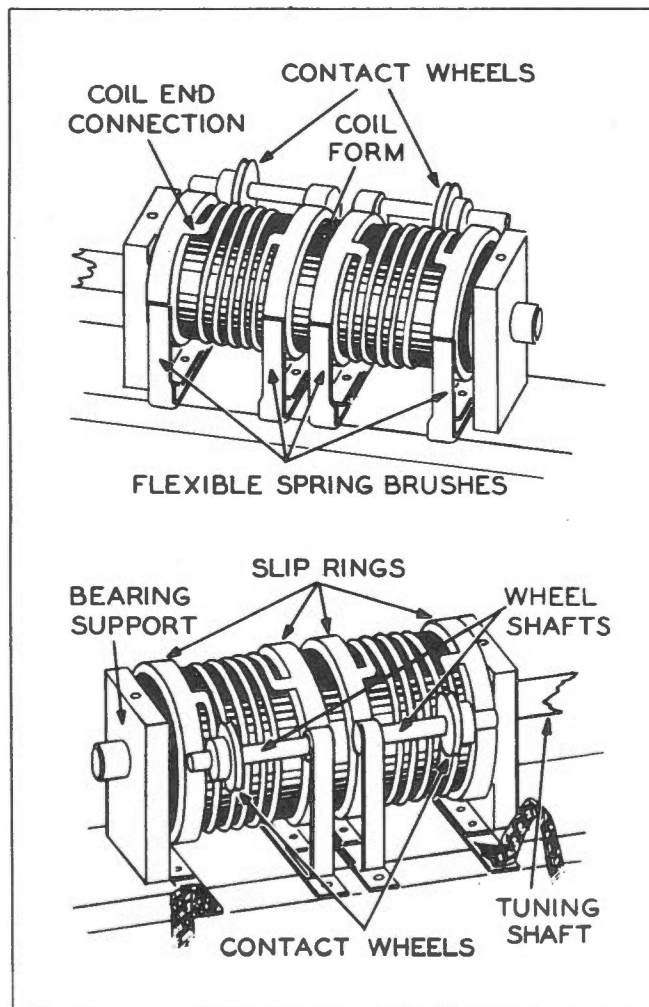

Figure 4-10. Radar Transmitter T-28/APT-1
(1) Coil L27 is located on top of the chassis near the front center and is connected directly to the top plate terminal on top of the mixer tube.
(2) Adjustment of the inductance of Coil L27 (and distributed capacitance to a certain extent) is accomplished by turning the entire coil form with the "MIXER PLATE" control. As the coil turns, two wheel-like contacts are moved along the coil parallel to its axis. Since the contacts are electrically connected to the center of the coil, various turns are short circuited by this action. (See fig. 4-10.)